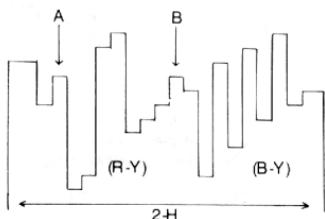

Figure 6. Pin 24 Waveform
- Adjust SL506 so that the DC LEVEL of the parts A,B (figure 6) may coincide.